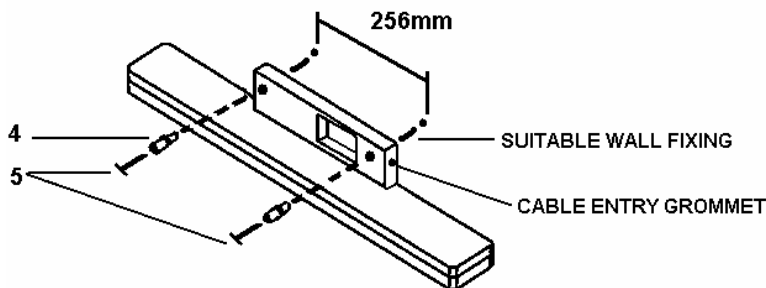

Fig.3
7. Insert the narrow end of the two cylindrical plastic spacers (**4**) in to the two holes of the back plate (**Fig.3**)